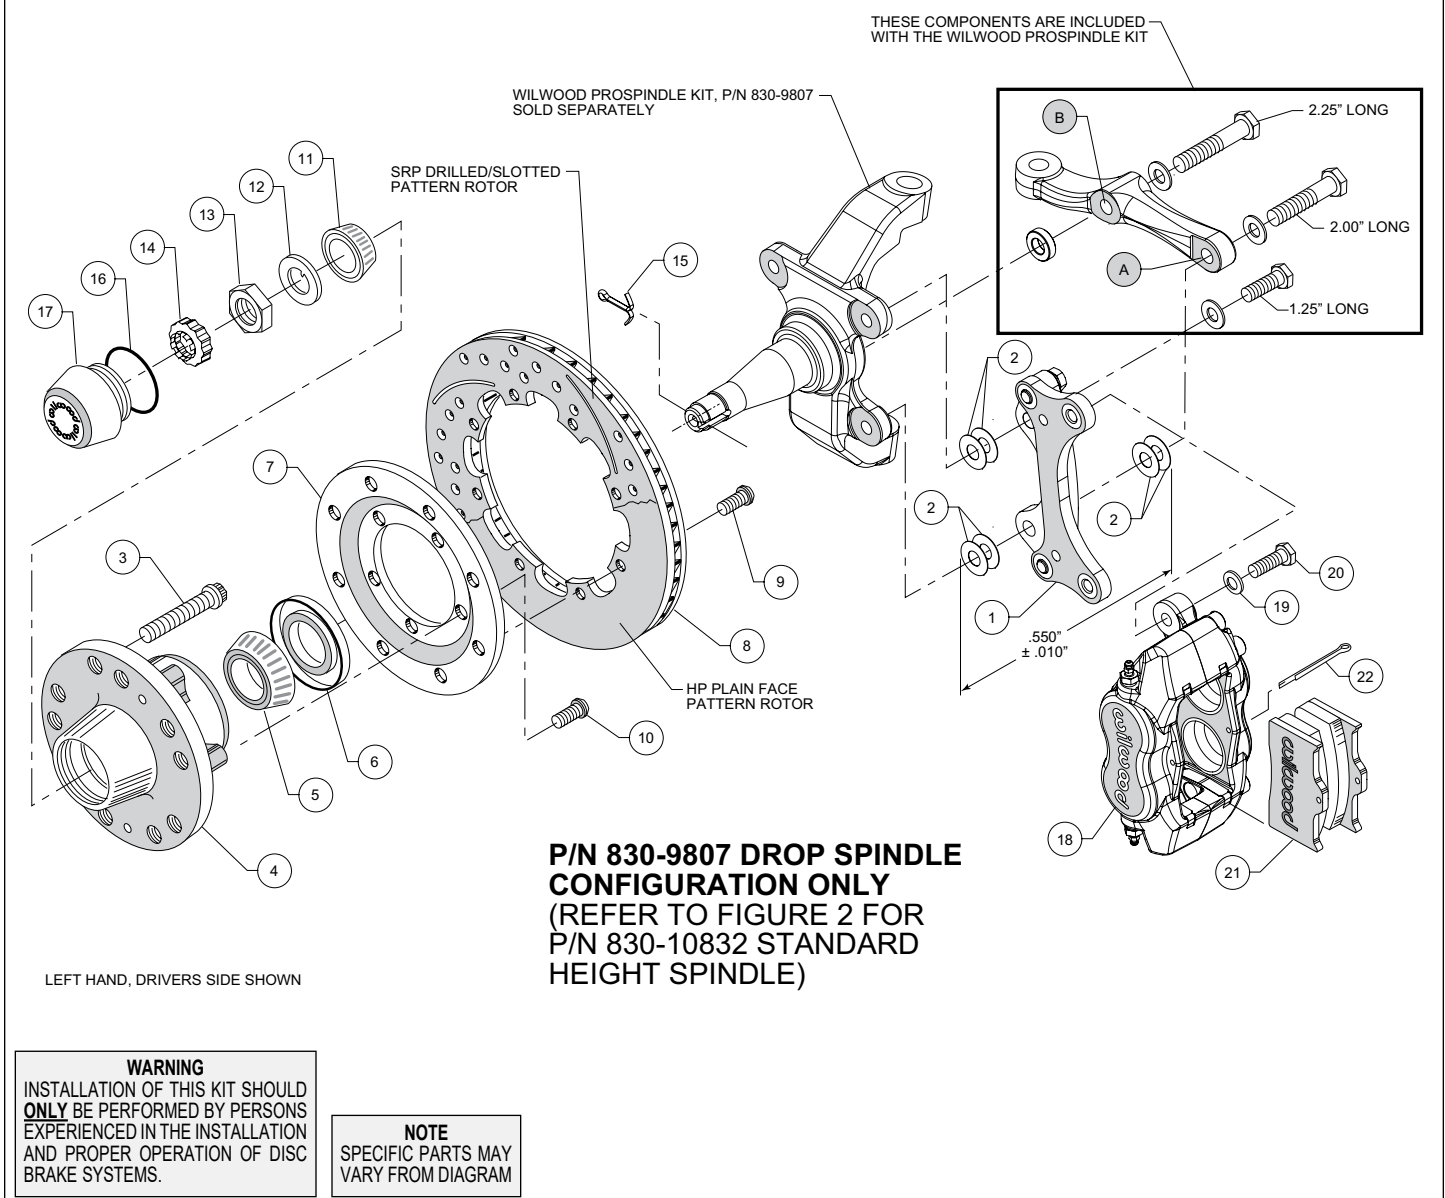
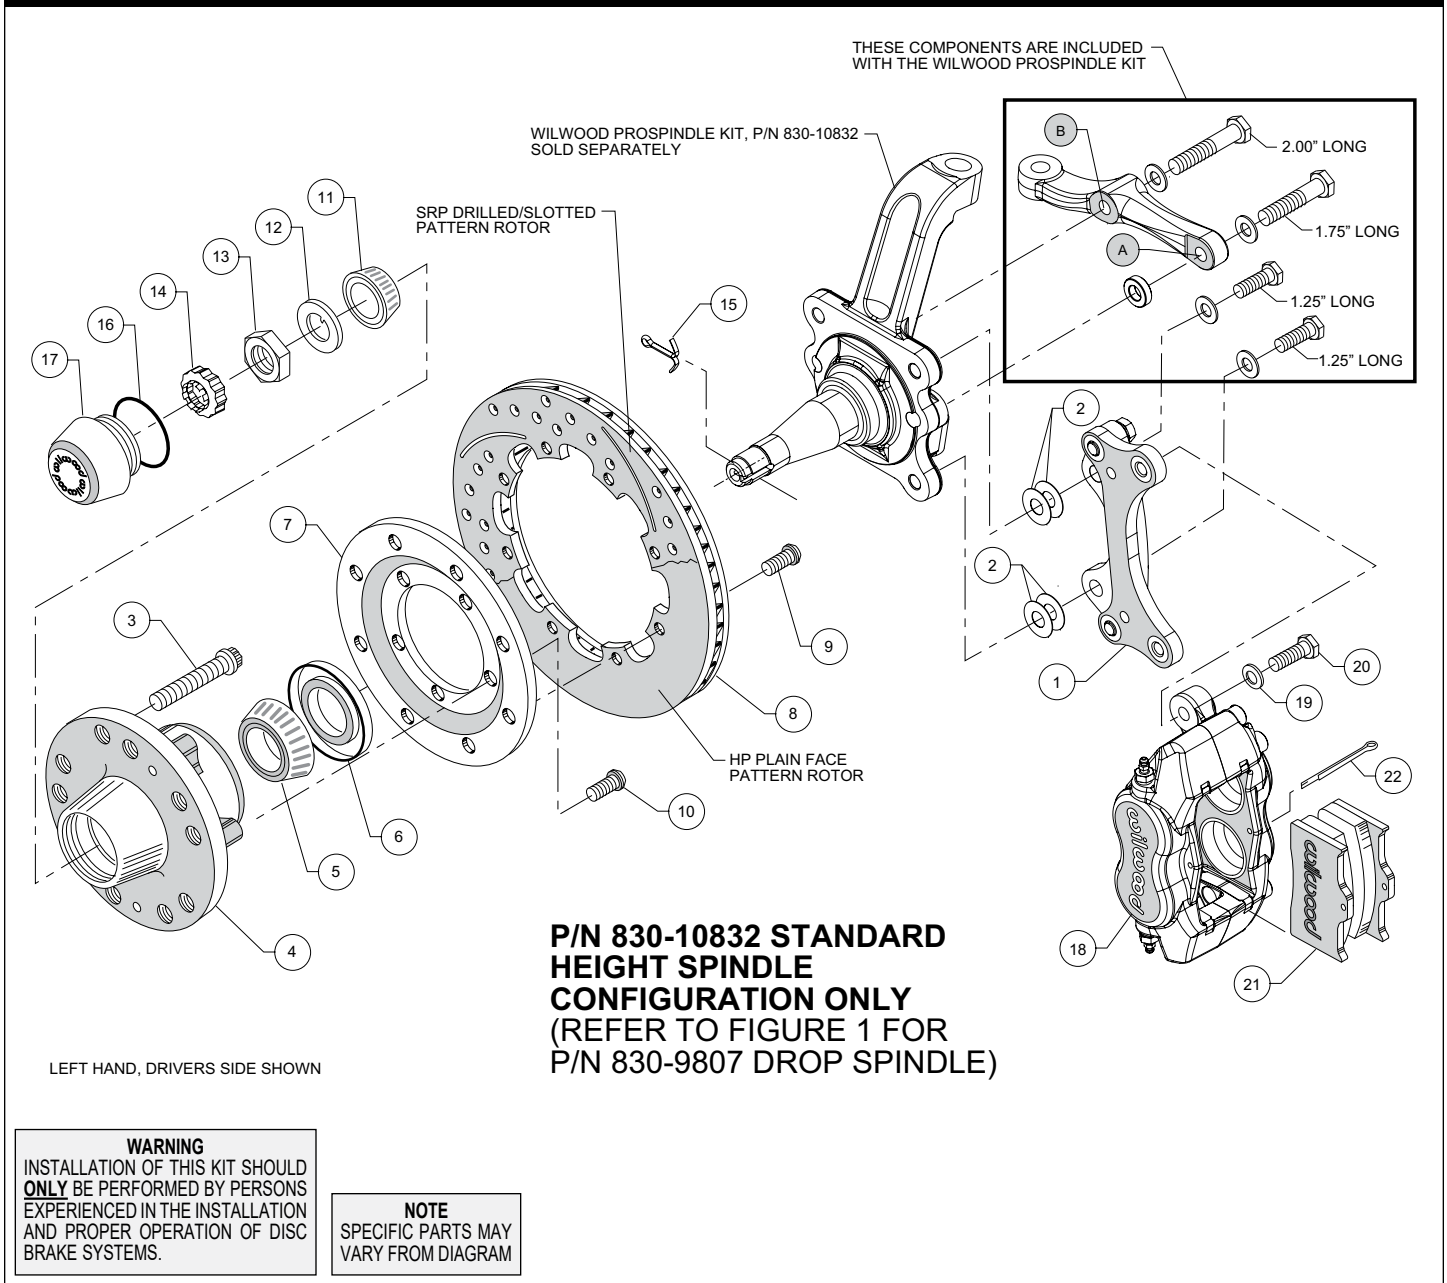

Figure 1. Installation Configuration For Drop Spindle, P/N 830-9807
Figure 2. Installation Configuration For Standard Height Spindle, P/N 830-10832
NOTE: Numbers in parenthesis refer to the parts list and Figures 1 and 2 on the preceding pages.
NOTE: Each Wilwood ProSpindle kit includes bolts, washers, and a spacer to mount the steering arm and caliper bracket. The various bolts are identified by length in the following instructions and in Figures 1 and 2.
- Orient the bracket as shown in Figure 1 and Photo 1. Install at top spindle hole using 1.25" long bolt and .06" thick washer (from ProSpindle kit), and two .016" thick shims (2) between the bracket and spindle, Figure 1.
- Orient the steering arm, and identify the hole marked 'A', as shown in Figure 1. Install at bottom spindle hole using 2.00" long bolt, .06" thick washer (from ProSpindle kit), two .016" thick shims (2) between the steering arm and the bracket, and another two more .016" thick shims (2) between the bracket and spindle, Figure 1. The bracket is located between the steering arm and spindle. **NOTE:** The bracket and shim washers must add up to a total thickness of .550" ± .010", Figure 1.
- Finish attaching the steering arm through the hole marked 'B', as shown in Figure 1. Install using 2.25" long bolt, .06" thick washer, and .25" thick spacer (all from ProSpindle kit), Figure 1.
- Orient the bracket as shown in Figure 2 and Photo 2. Install using 1.25" long bolts and .06" thick washers (from ProSpindle kit), and two .016" thick shims (2) on each bolt between the bracket and spindle, Figure 2. Temporarily tighten mounting bolts. **NOTE:** *The bracket must fit squarely against the mounting points on the spindle.* Inspect for interference from casting irregularities, machining ridges, burrs, etc. Later, after the caliper alignment has been checked, the mount bolts will be secured using red *Loctite*® 271.
- Orient the steering arm, and identify the hole marked 'A', as shown in Figure 2. Install using 1.75" long bolt, .06" thick washer, and .30" thick spacer (all from ProSpindle kit), Figure 2.
- Finish attaching the steering arm through the hole marked 'B', as shown in Figure 2. Install using 2.00" long bolt and .06" thick washer (from ProSpindle kit), Figure 2.
- Install wheel studs (3) into the hub (4), Photo 3. Torque to 77 ft-lb. **NOTE:** *There are two lug patterns of five holes each in the hub (5 x 4.50 and 5 x 4.75).* Make sure of the correct hole pattern for the wheel application before installing the studs into the hub.
- Pack the large inner bearing cone (5) with high temperature disc brake bearing grease (available from your local auto parts store) and install into the backside of the hub (4), Photo 4.
- Install the grease seal (6) by pressing into the backside of the hub (4), flush with the end of the hub, Photo 4.
- Orient the rotor (8) and the rotor adapter (7) as shown in Figure 1 or 2 and Photo 5. Attach the rotor to the adapter using bolts (9). Using an alternating sequence, apply red *Loctite*® 271 to the threads, and torque to 25 ft-lb.
- Mount the adapter/rotor assembly (7 and 8) to the hub (4) using bolts (10), as shown in Figure 1 or 2 and Photo 6. Using an alternating sequence, apply red *Loctite*® 271 to the threads, and torque to 45 ft-lb.
- Pack the small outer bearing cone (11) with high temperature disc brake bearing grease and install into front of hub (4). Slide the hub assembly onto the spindle. Secure using spindle washer (12) and spindle nut (13), Photo 7. Bearing adjustment: Tighten the nut while turning the hub. When there is a slight bind on the bearings, they are seated correctly. Back the nut off about 1/6 to 1/4 of a turn, or sufficiently to allow .001" to .007" end play. **WARNING:**
•**NOTE:** Please reference the caution statement at the beginning of the assembly instructions. Mount the caliper (18) onto the caliper mounting bracket (1) using bolts (20) and washers (19), as shown in Figure 1 or 2. Temporarily tighten the mounting bolts and view the rotor (8) through the top opening of the caliper. The rotor should be centered in the caliper, Photo 9. If not, proceed as follows: